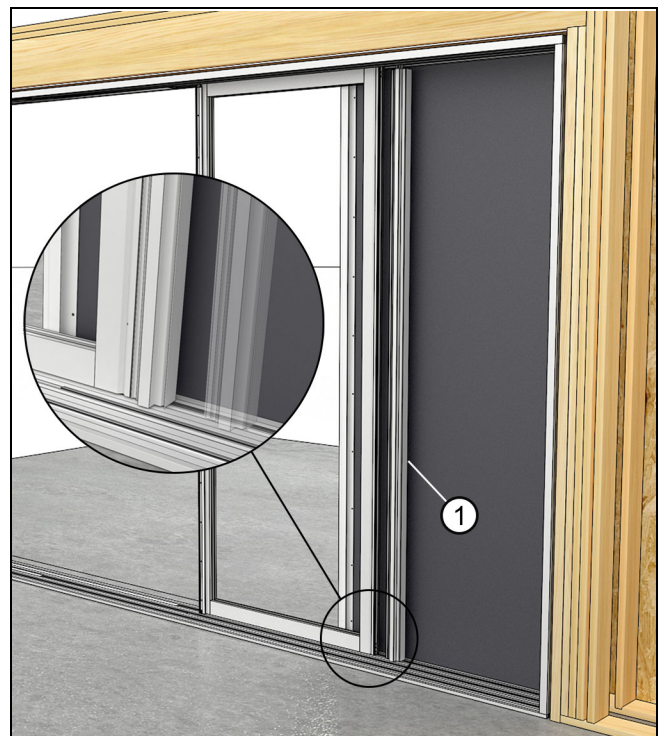
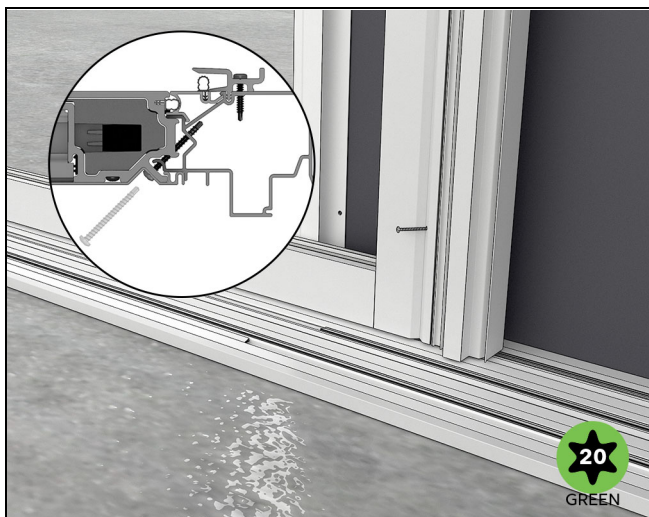

Figure 96
Figure 97
1. Attach pocket support block to the stile of the pocket panel. Fasten through the pre-drilled holes in the top and bottom with the #8 x 1 3/4" (44) self drilling screws. (Bag with the green dot). Make sure the support block is flush to the bottom of the panel. See Figure 96 and Figure 97.